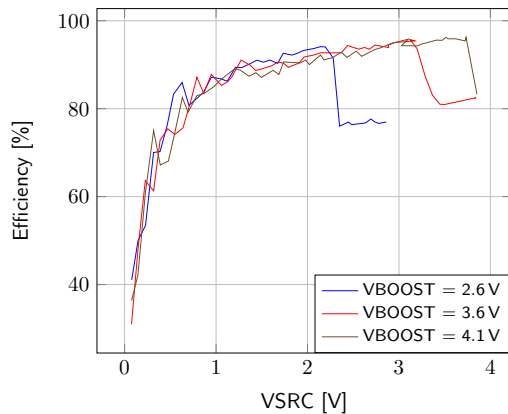

Figure 8: Boost efficiency for $I_{SRC} = 1 \text{ mA}$
- **VBOOST**: Measure the current and the voltage. Repeat the measurement a copious number of times to be sure to capture the current peaks. Figure 8 has been obtained by averaging over 100 measurements configured with a 100 ms integration time.